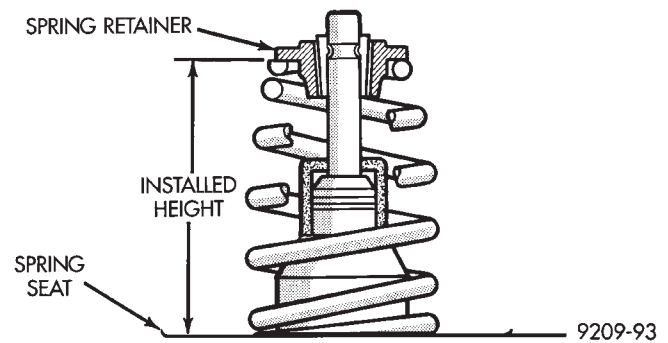

Fig. 24 Checking Valve Installed Height
(5) Check the valve spring installed height after refacing the valve and seat (Fig. 24).
(1) Coat valve stems with clean engine oil and insert them in cylinder head.
(2) If valves or seats are reground, check installed valve spring height (Fig. 24).
(3) Install new cup seals on all valve stems and over valve guides (Fig. 24). Install valve springs and valve retainers.